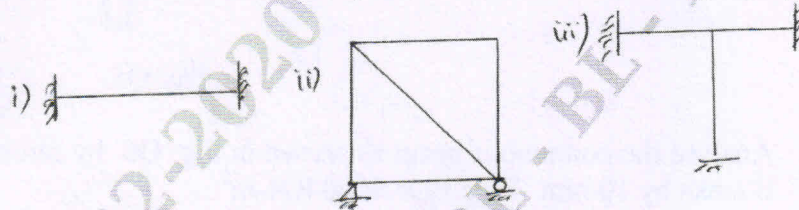

Fig. Q1 (a)
- 1 a. Find the static and kinematic indeterminacy of structures shown in Fig. Q1 (a). (12 Marks)